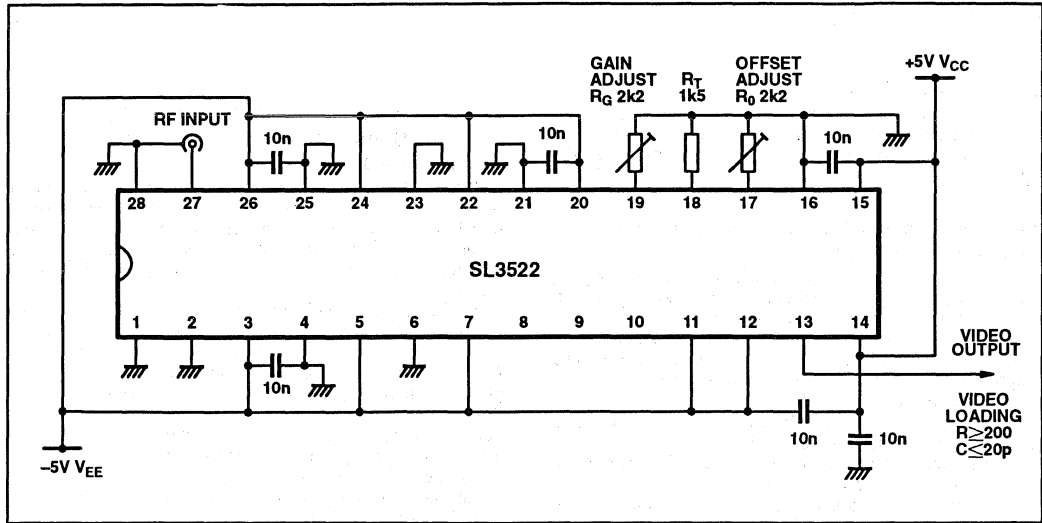
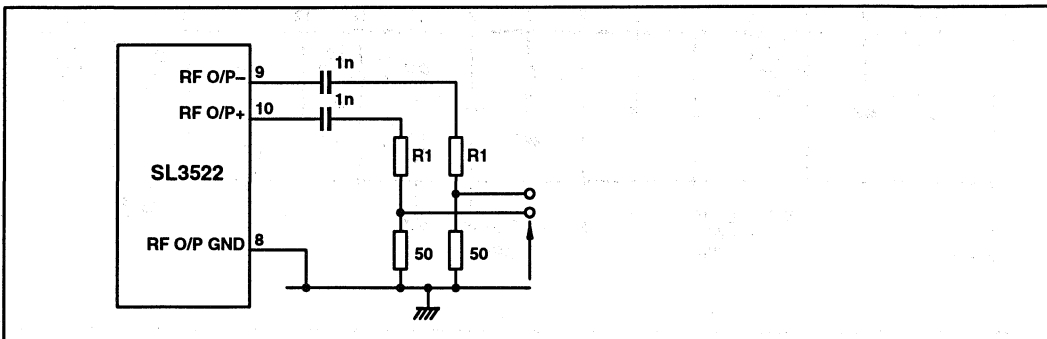

Fig. 5 Application circuit successive detection logarithmic function only
Fig. 9 Network for attenuating limited RF output
a) Gain and Offset trimming (ref Applications circuits in figs 5 and 6)
If the SL3522 is to be used as a Logarithmic successive detection amplifier only, with no requirement for a limited RF Output, the RF input (pins 27 and 28) can be driven EITHER differentially or single ended from a 50Ω source. If being used with a single ended input, the SIGNAL should be applied to pin 27 and the RETURN should be connected to pin 28, as shown in the Application circuit diagram in Fig 5.
If required the limited RF Output can be attenuated using an attenuation network as shown in fig. 9. Under these conditions the effective RF Output currents will be reduced, allowing the device to operate with a greater margin of stability. It may be possible to run the device without a BALUN transformer on the RF input if the total output impedance on the RF Output $\gg 50\Omega$, and the attenuation components are mounted as close as possible to the RF Output connections (pins 9 and 10). The RF input connection could then be configured as in Fig 5.